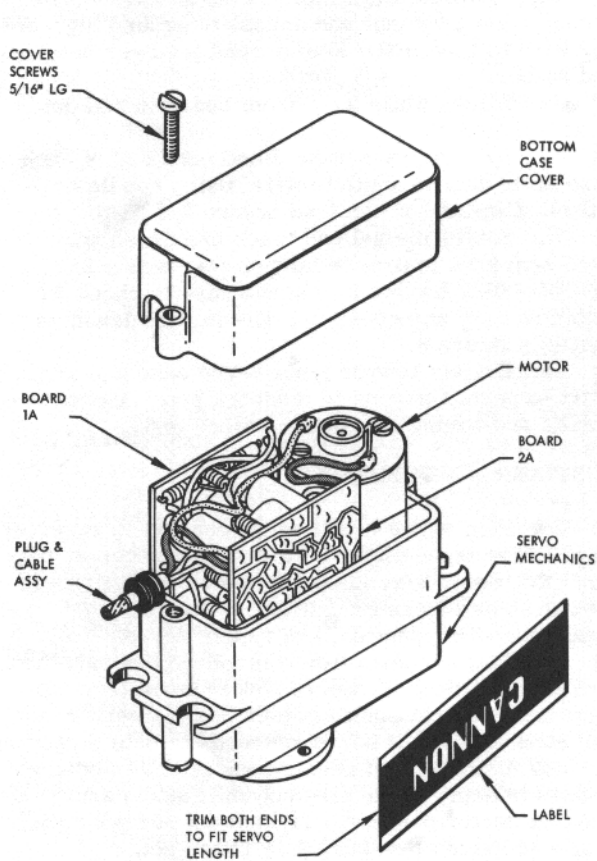

Figure 8. Servo Final Assembly
- 58. Spread boards 1A and 2A apart to permit cable installation. Figure 8 shows the position that cable must have in relation to both boards. Route cable wires to boards so cable will fit properly.
- 74. Slide boards into servo case to check fit, with cover off and cover on. Dress wire leads as shown in figure 8.
- 81. Reinstall boards in servo. Dress wires as in figure 8.